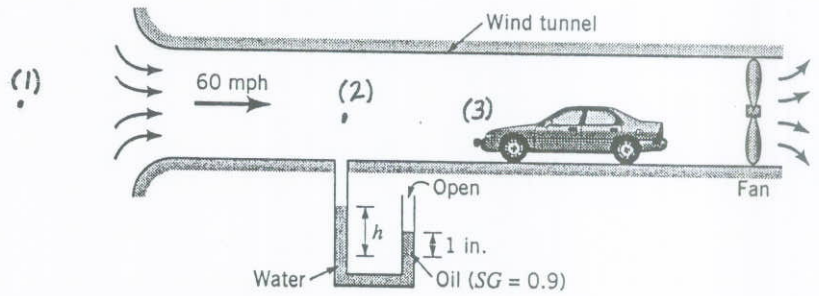

FIGURE P3.48
3.48 Air is drawn into a wind tunnel used for testing automobiles as shown in Fig. P3.48. (a) Determine the manometer reading,  $h$ , when the velocity in the test section is 60 mph. Note that there is a 1-in. column of oil on the water in the manometer. (b) Determine the difference between the stagnation pressure on the front of the automobile and the pressure in the test section.